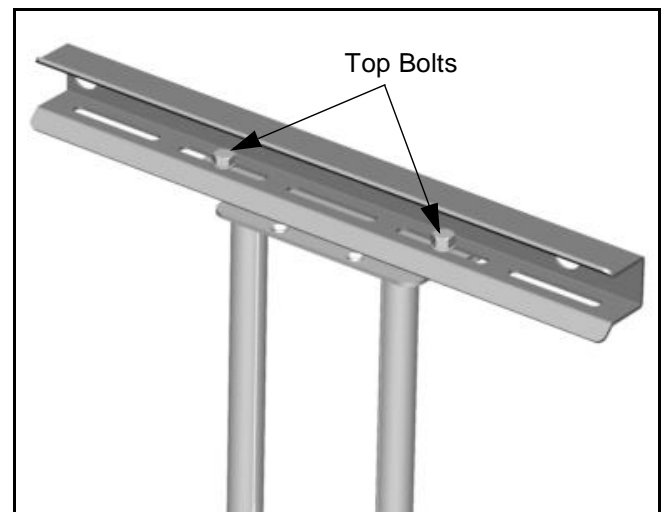

Figure 13
2. Loosen four bolts (two on the top and two on the bottom) securing the swing arm assembly to the top and bottom mounting brackets (See figure 13).